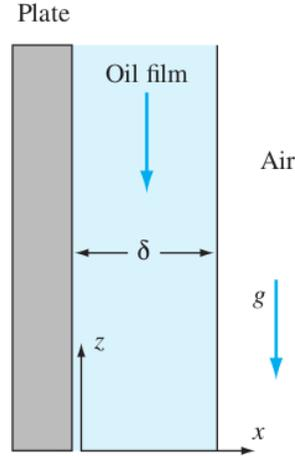

Fig. 4.12
- 4.12 Oil, of density ρ and viscosity μ , drains steadily down the side of a vertical plate, as in Fig. 4.12. After a development region near the top of the plate, the oil film will become independent of z and of constant thickness δ . Assume that $w = w(x)$ only and that the atmosphere offers no shear resistance to the surface of the film. a) Solve the Navier-Stokes equation for $w(x)$, and sketch its approximate shape. b) Suppose that film thickness δ and the slope of the velocity profile at the wall $[\partial w / \partial x]_{\text{wall}}$ are measured with a laser-Doppler anemometer (Chap. 6). Find an expression for oil viscosity μ as a function of $(\rho, \delta, g, [\partial w / \partial x]_{\text{wall}})$